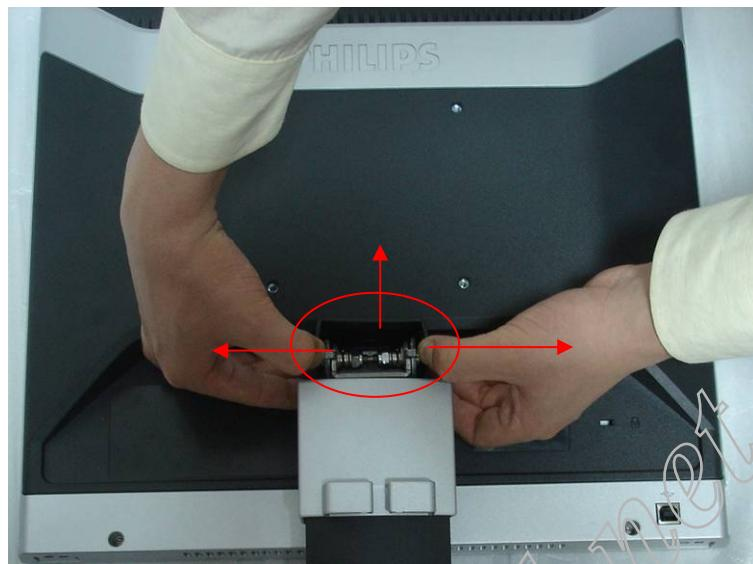

Fig.3
**3. Remove rear cover as Fig.3.**
Pull out the stand cover emphatically as fig.3.